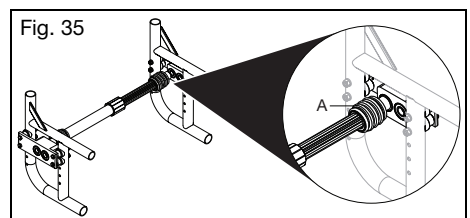

Fig. 35
The One Arm Drive Strut must be disengaged and removed if you have a folding chair. Follow the steps below with no user in the chair to remove the strut. This applies to the Quick Release One Arm Drive which can be identified by looking at Fig. 35 (shown as an example on a Catalyst frame).
1. Grab one of the rubber sleeves (Fig. 35:A) at the end of the drive strut and pull back.